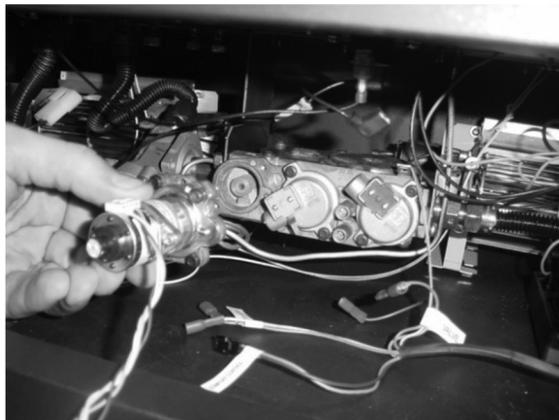

Figure 1
- (b) Remove and discard the Natural Gas (NG) orifice. Place the LP orifice in the pilot assembly then replace the pilot hood, tightening the pilot hood until it is snug (do not over-tighten).
8. Remove the control panel to access the gas control panel. The stepper motor (adjustable regulator) has an installation sheet included with it – make sure to follow all of the directions. Place the stepper motor on the gas control valve (see Figure 1) – **MAKE SURE IT IS CORRECTLY ORIENTED.** Secure using the screws included with the motor (see Figure 2) – tighten to 25 Lb-inches. Leak test this area after installation to verify proper installation.